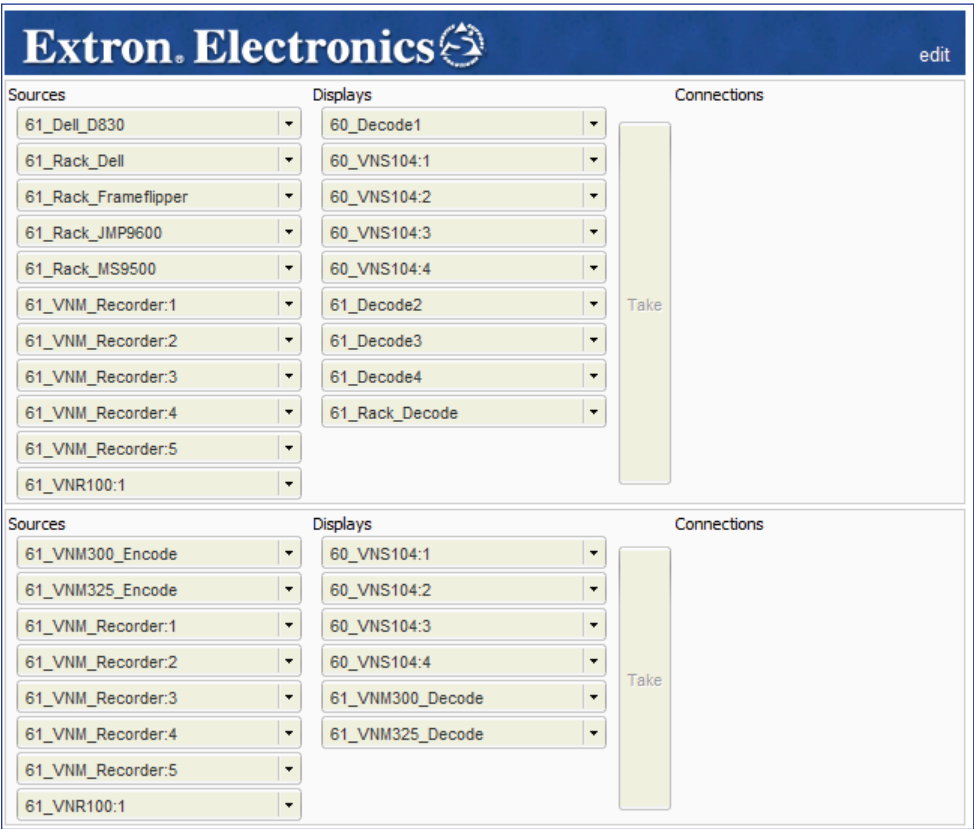

Figure 70. Switcher Window
- 1. Click **switcher** (see figure 70 , ❶) to open the **Switcher** page (see Accessing the Web-based User Interface on page 11 for information on how to login).